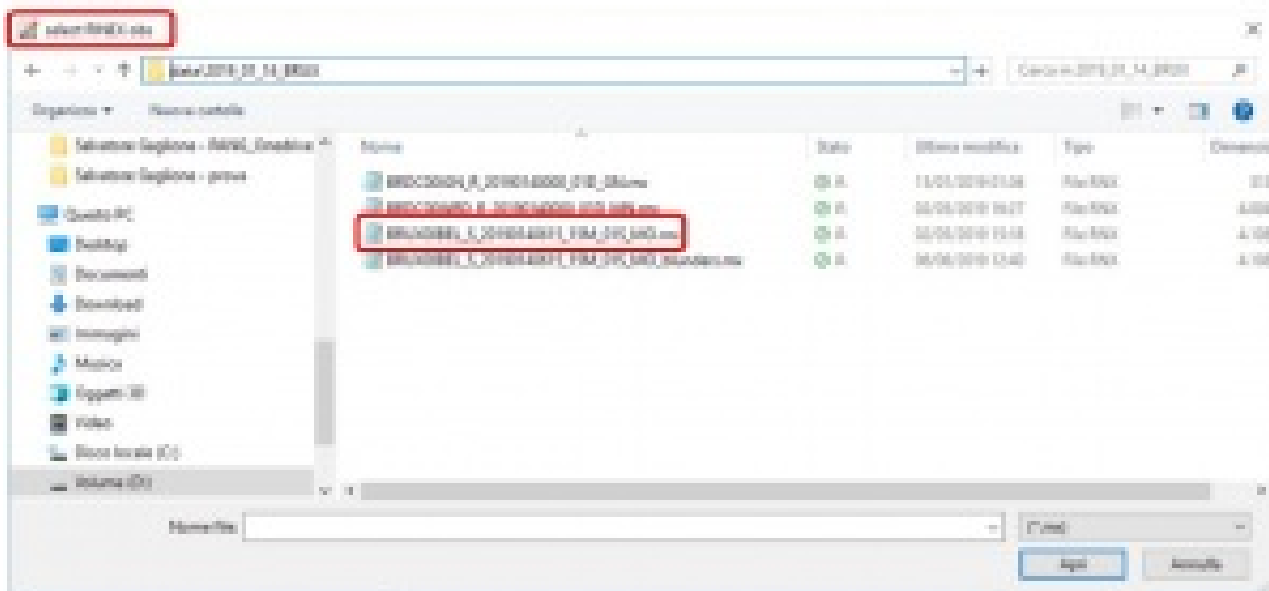

Figure 3
- one RINEX observation (3.2 version) file (figure 3),